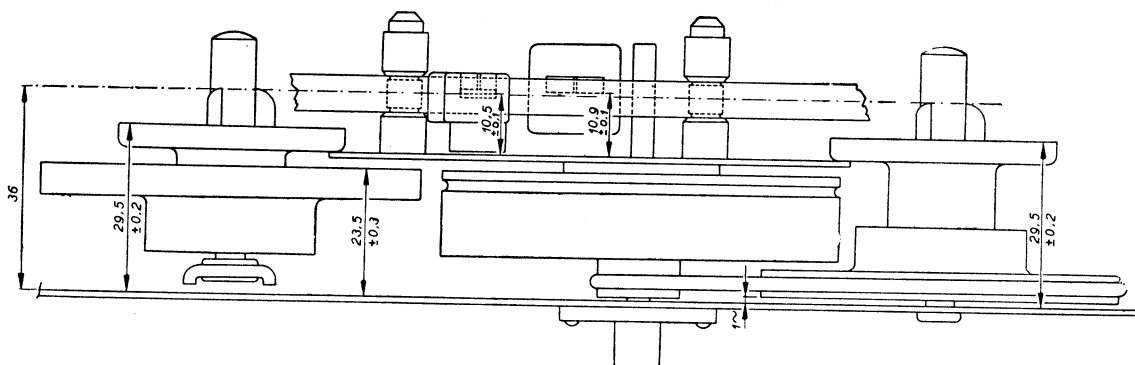

Fig. 11. Guiding
3.43 The height of the two drive pins must correspond to the data given in Fig. 11.